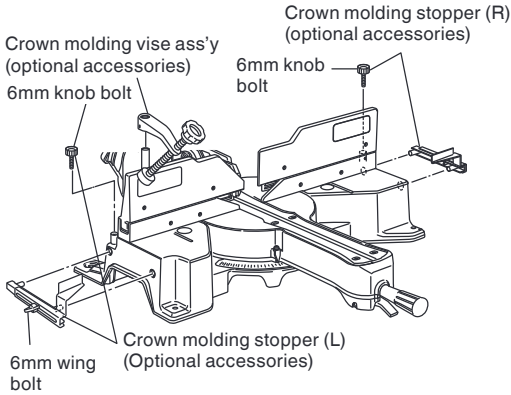

Fig. 45-a
(1) Crown molding Stopper (L) and (R) (optional accessories) allow easier cuts of crown molding without tilting the saw blade. Install them in the base both-sides side to be shown in Fig. 45-a. After inserting Tighten the 6mm knob bolts to secure the crown molding Stoppers.